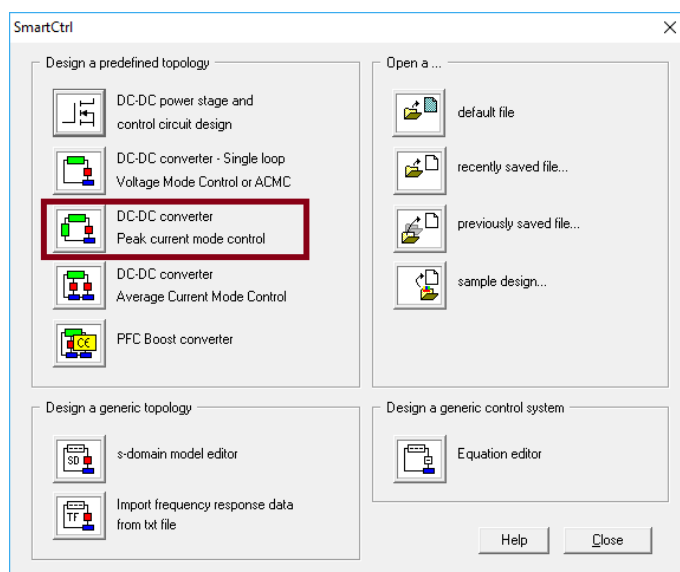

Figure 3: SmartCtrl initial menu
1. Click on DC-DC converter peak-current mode control as shown in Figure 3.